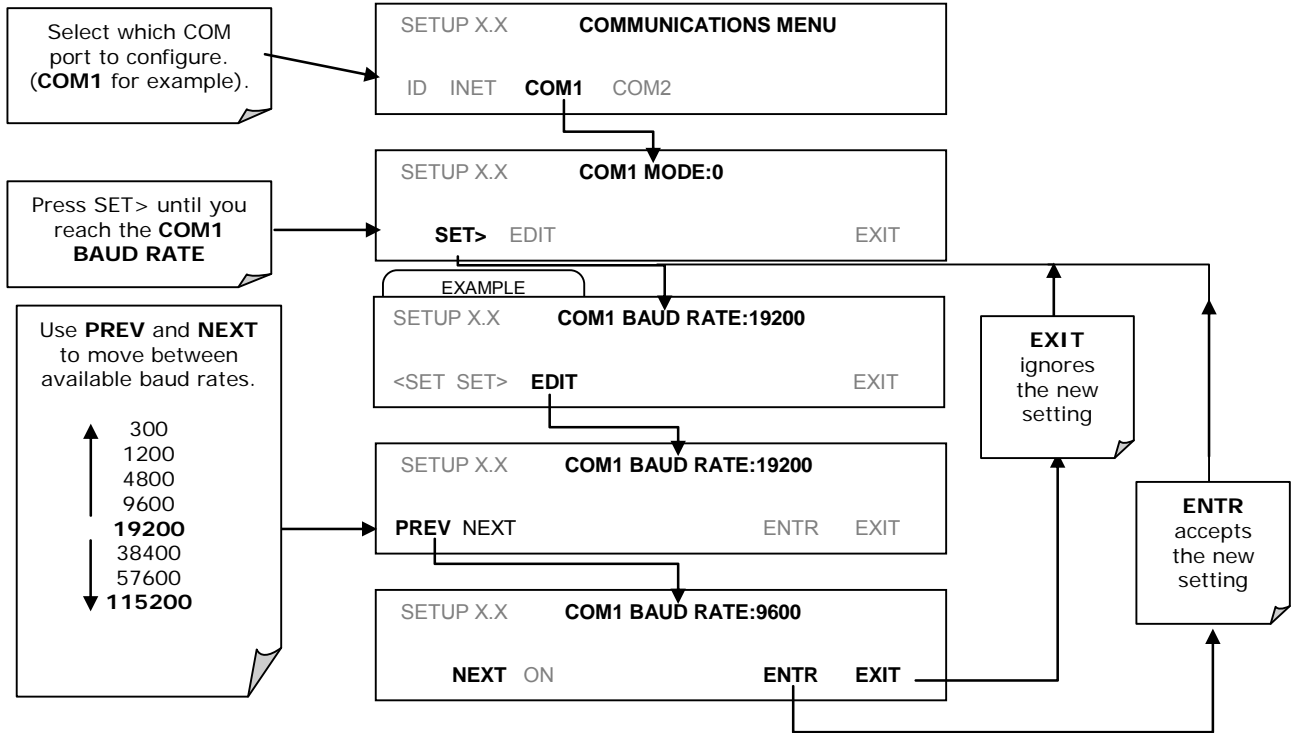

Figure 6-2: COMM – COMM Port Baud Rate
2. Press the SET> button until “COM2 BAUD RATE:xxxxx” appears in the Param field of the instrument display. (Figure 6-2 shows the menu sequence).